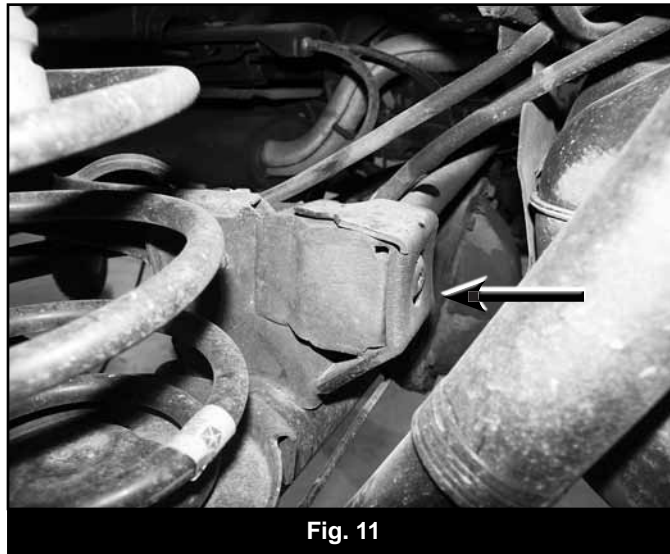

Fig. 11
11. Remove the plastic cover from the track bar mount on the driver's side of the axle (Fig 11). Discard the cover.
12. Disconnect the track bar (Fig 11) from the axle by remove the Torx head bolt (T55). Note how the track bar is positioned in vehicle. It can rest in the vehicle or be removed for reinstallation later.